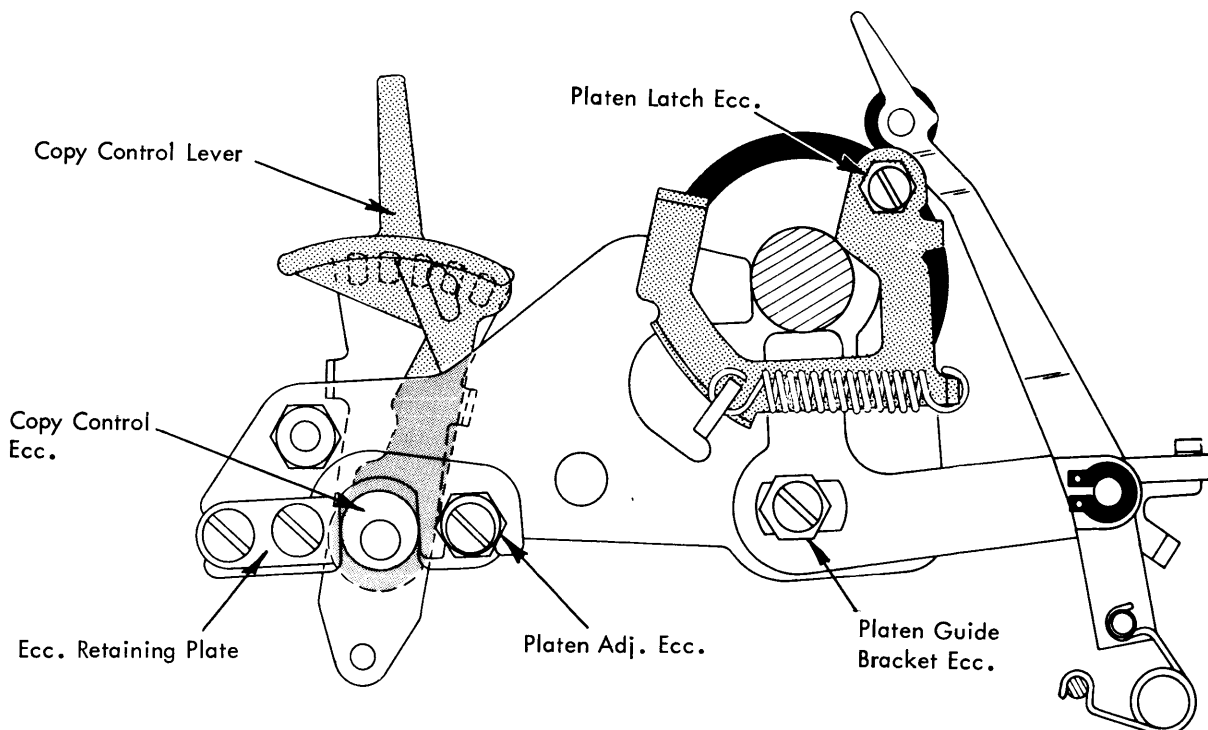
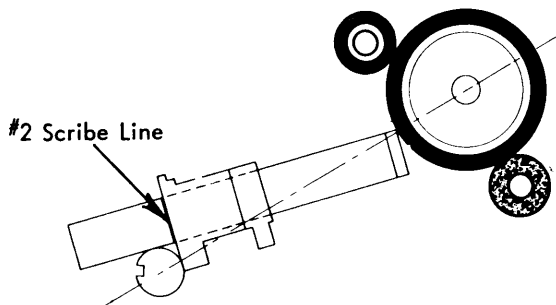

FIGURE 70. Copy Control Mechanism
FIGURE 72. Front to Rear Platen Adjustment
1. Copy Control Lever - With the copy control lever detented in the forward position, the high points of the eccentrics should be vertical (Fig. 70). Adjust the copy control lever on the shaft to satisfy this condition.
2. Eccentric Retaining Plates - For maximum efficiency of the copy control eccentrics, adjust the plate on each side of the machine so that no front to rear play exists between the eccentrics and the retaining plates (Fig. 70). Be sure that no binds exist.
Adjust the platen guide bracket eccentrics to obtain this condition (Fig. 70). The high part of the eccentrics should be kept to the rear. It is necessary to remove the deflector and front feed rolls when checking the adjustment with the Hooverometer.
- b. Platen Front to Rear - With the head of the Hooverometer set at the #2 scribe line, the tool should just span the distance between the platen and the print shaft as illustrated in Fig. 72. Adjust the platen adjusting eccentrics to obtain this condition (Fig. 70).